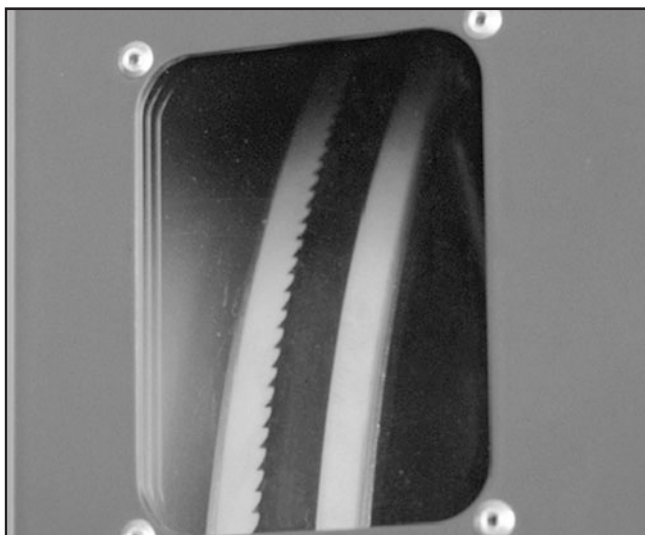

Figure 40. Blade tracking window.
2. Observe the blade tracking path through the clear window on the right edge of the bandsaw as shown in **Figure 40**.